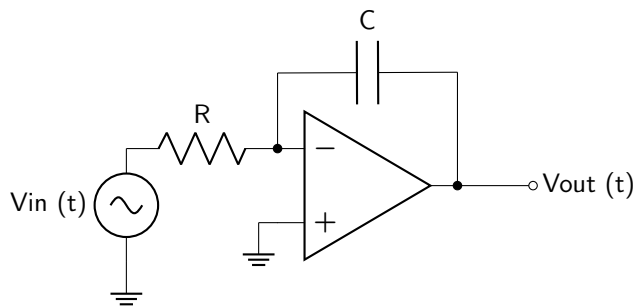

Figure 7.2: Lab 7 pre-lab op-amp circuit 2.
2. Given the circuit shown in figure 7.2, derive an equation for $v_{OUT}(t)$ in terms of R , C , and $v_{IN}(t)$.